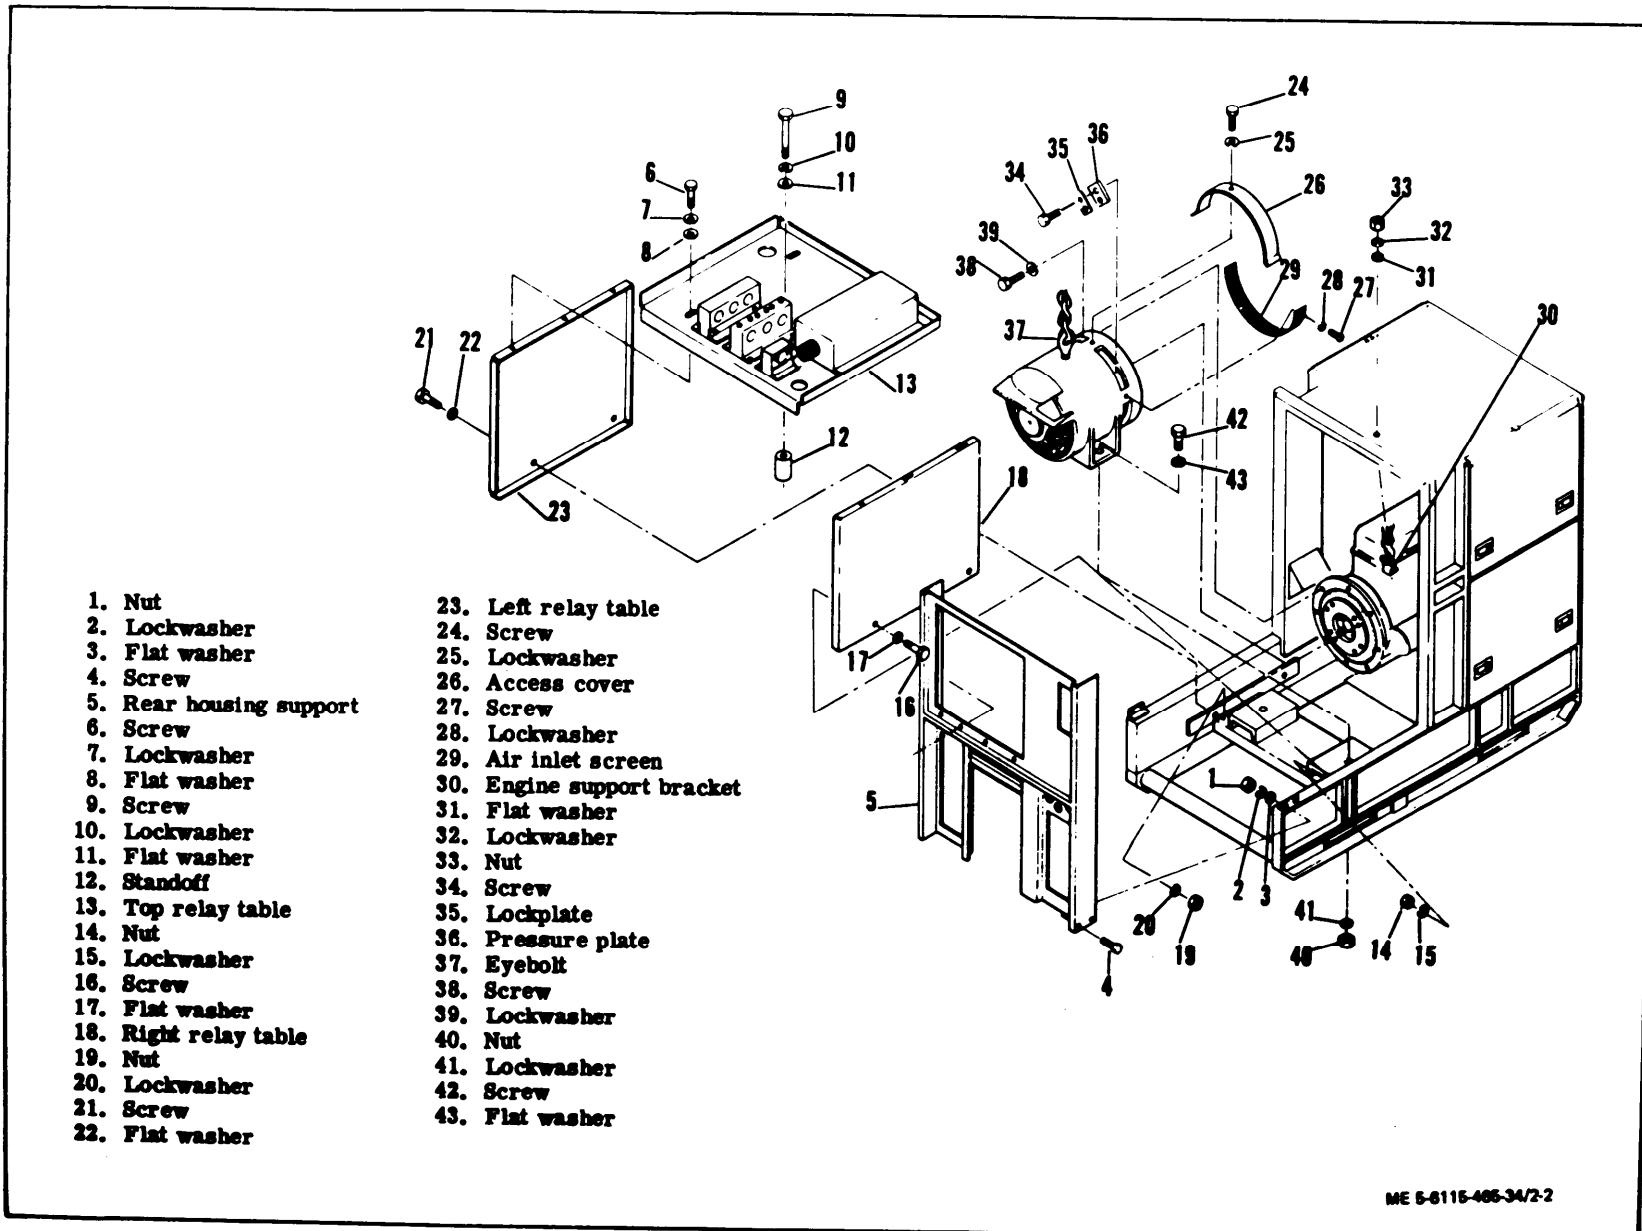

Figure 2-2. Generator Assembly, Removal and Installation
(3) Tag and disconnect electrical leads between voltage reconnection board and load terminal board.
(4) Remove voltage reconnection board (see the Operator and Organizational Maintenance Manual).
(5) Remove main load contactor and special relay assembly (paragraphs 5-6 and 5-11).
(6) Remove nuts (1, figure 2-2), lockwashers (2), flat washers (3) and screws (4) to remove rear housing support (5).
(7) Remove screws (6), lockwashers (7) and flat washers (8).
(8) Remove screw (9), lockwasher (10), flat washer (11) and standoff (12) to remove top relay table (13).
(9) Remove nuts (14), lockwashers (15), screws (16) and flat washers (17) to remove right relay table (18).
(10) Remove nuts (19), lockwashers (20), screws (21) and flat washers (22) to remove left relay table (23).
(11) Remove screw (24), lockwasher (25) and access cover (26).
(12) Remove screws (27), lockwashers (28), and air inlet screen (29).
(13) Install engine support bracket (30), flat washer (31), lockwasher (32) and nut (33).
(14) Remove screws (34), lockplates (35), and pressure plates (36).
(15) Remove eyebolt (37) from generator set tool box and install into generator.
(1) Install generator assembly in reverse order of removal instructions.
(2) Torque lock plate attaching screws (34, figure 2-2) to 120 ft.-lb. Bend lockplate over screw.
(3) Torque mounting screws and nuts (42 and 40, figure 2-2) to 200-220 ft.-lb.